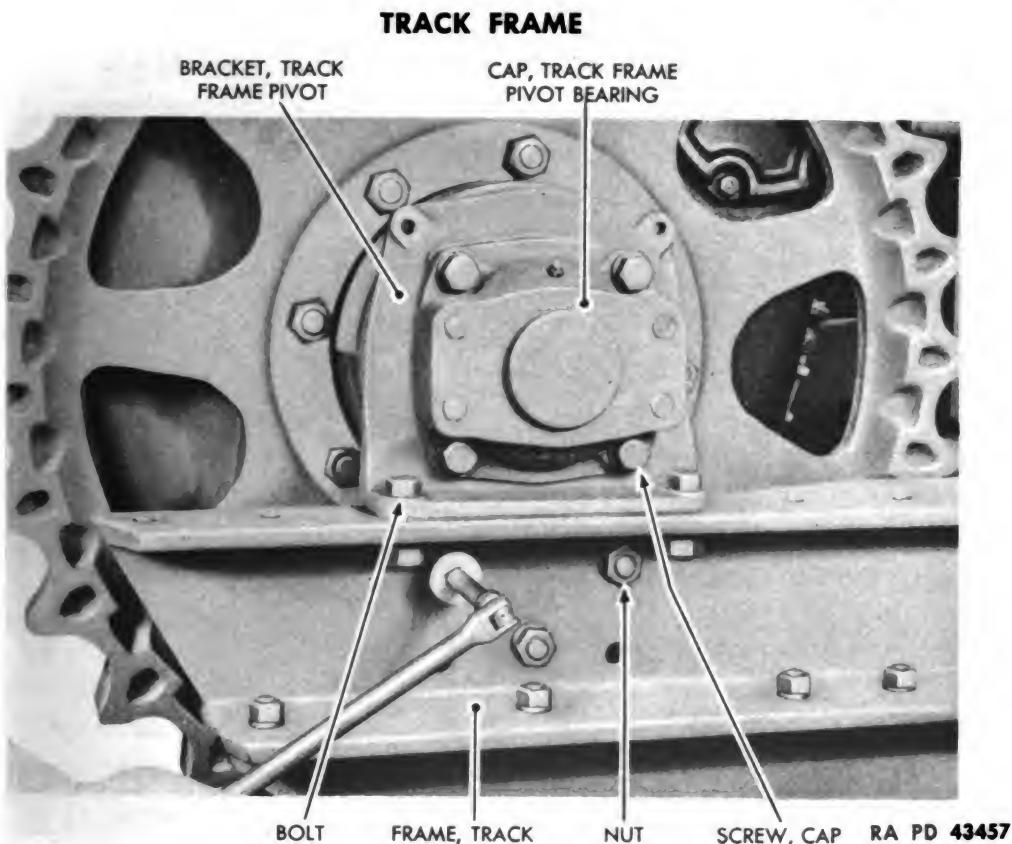

Figure 183 – Disconnecting Track Frame Pivot Bracket from Track Frame
(5) DISCONNECT TRACK FRAME PIVOT BRACKET FROM TRACK FRAME (fig. 183).